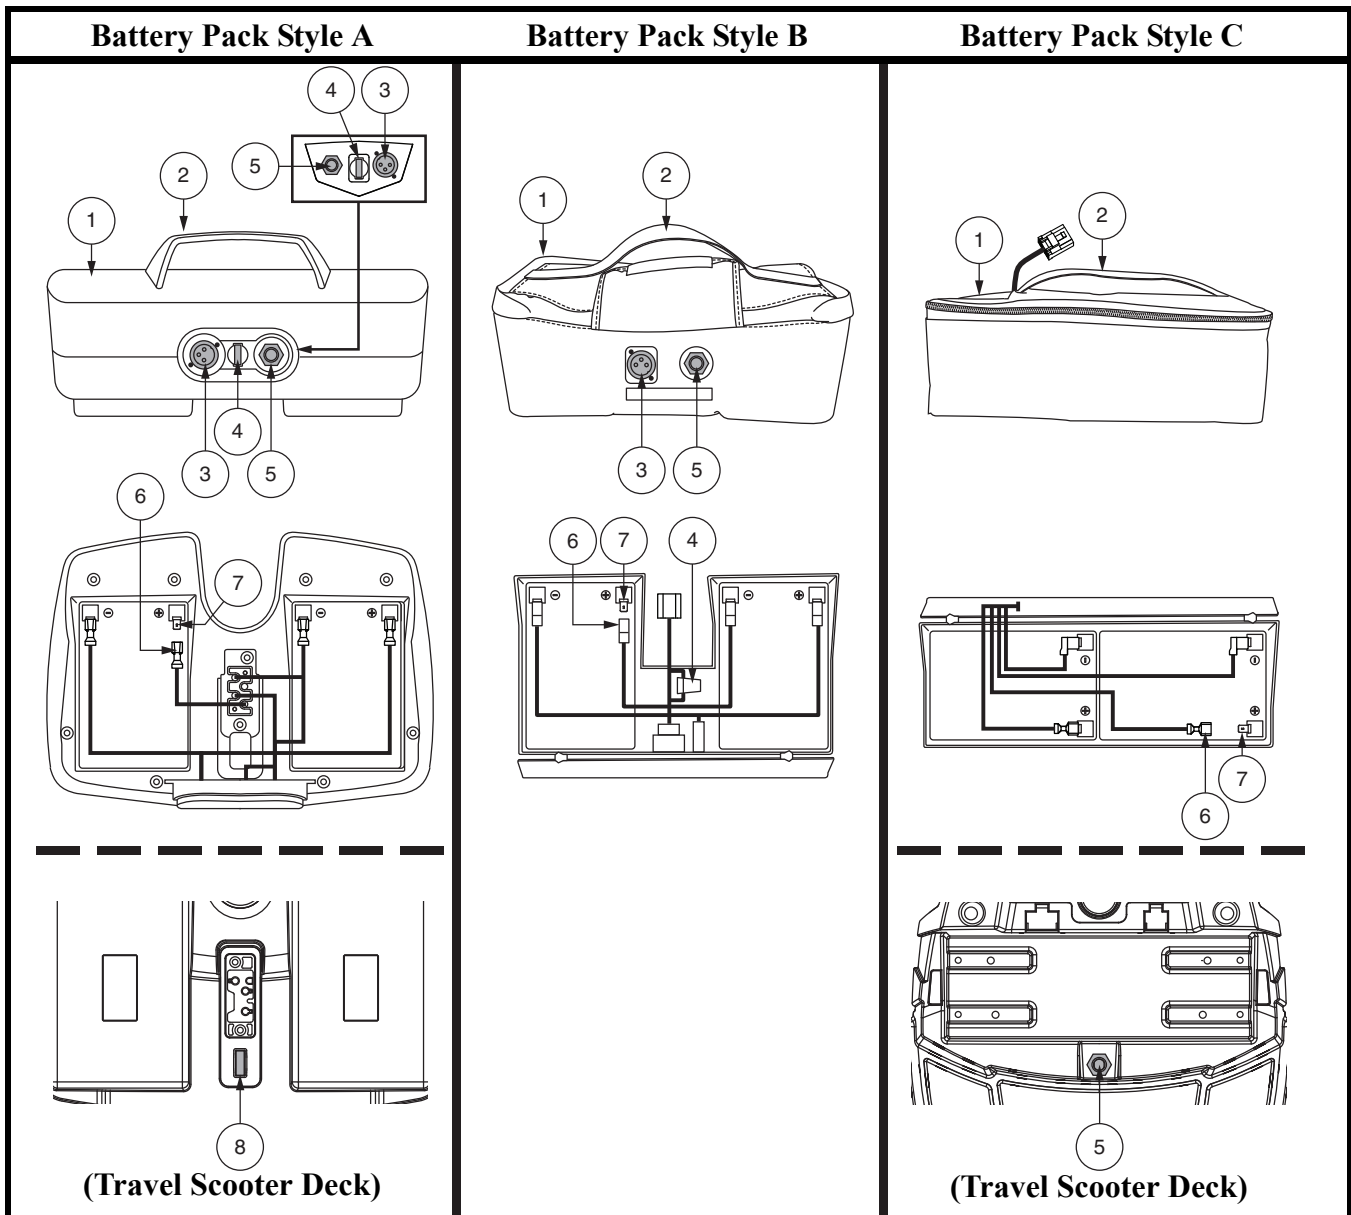

Figure 6. Battery Pack
When the voltage in your Travel Scooter's batteries becomes low or the Travel Scooter is heavily strained because of excessive loads or steep inclines, the main circuit breaker may trip to protect the motor and electronics from damage. See figure 6.
Your Travel Scooter is equipped with an innovative, easy-to-remove battery pack. A handle on the top of the battery pack makes it easy to lift the pack off of the Travel Scooter with one hand. The battery pack contains two rechargeable batteries, and may contain the charger power cord receptacle, the main circuit breaker (reset button), and the battery pack fuse. See figure 6.
The fuse located under the battery pack protects the tiller console electronics. See figure 6. In the event any component of the tiller console is not responding, check this fuse. See VII. “Basic Troubleshooting” for fuse replacement instructions.
- Ensure that the fuse on the battery pack is in working condition. See figure 6 or 7.